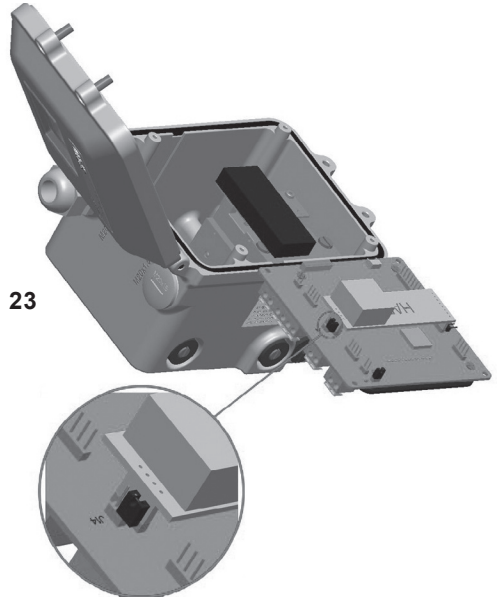

Fig. 23
- Collocate the Jumper J14 as shown in Figure 23.